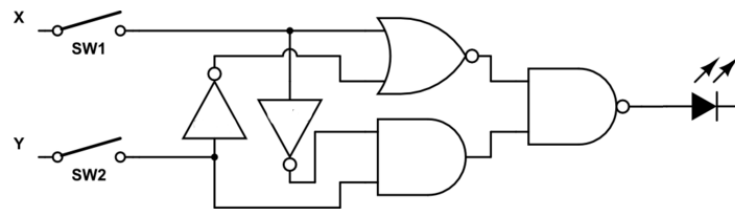

Figure 12: Circuit for activity 1
Implement the hardware from the circuit in Figure 12. The inputs should come from SW(1) and SW(2) and the output should be shown on any of the available LEDs. Use the implemented circuit to test and create a truth table